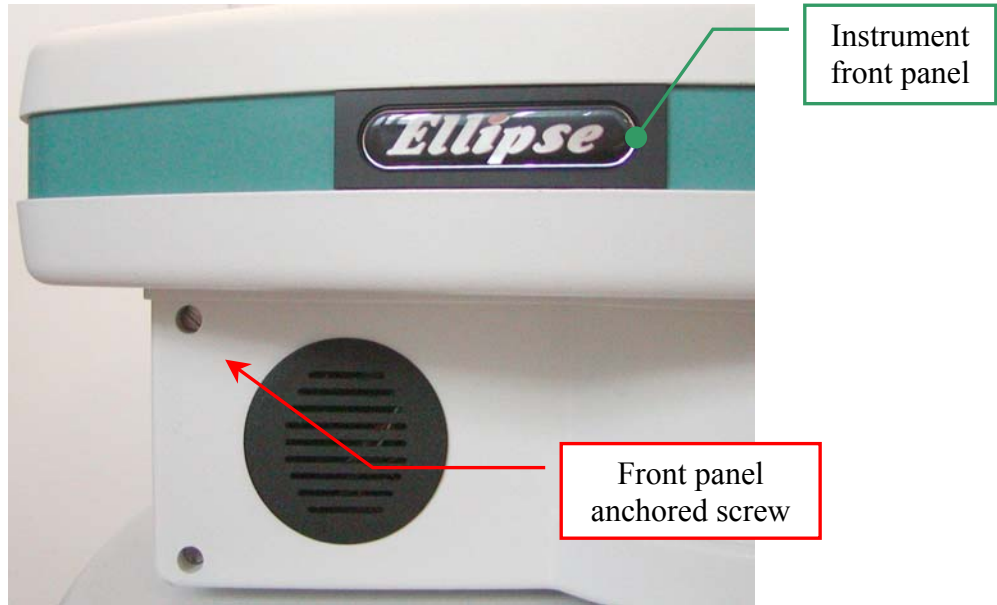

Fig. 13 - Front panel anchored screws
3. Remove the instrument front panel unscrewing its four anchored screws (Fig. 13).
15. Place the instrument front panel screwing its four anchored screws (Fig. 13).
3. Remove the instrument front panel unscrewing the four anchored screws (Fig. 13).